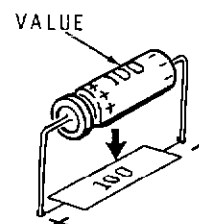

Figure 3
3. When you install electrolytic or other tubular capacitors, always position each capacitor so the value is facing away from the circuit board (see Figure 3). Be sure to observe the correct polarity when you install electrolytic capacitors (as you will be directed in the steps). Other, non-polarized, capacitors should be installed so you can read the values in the same direction as the printing on the circuit board.